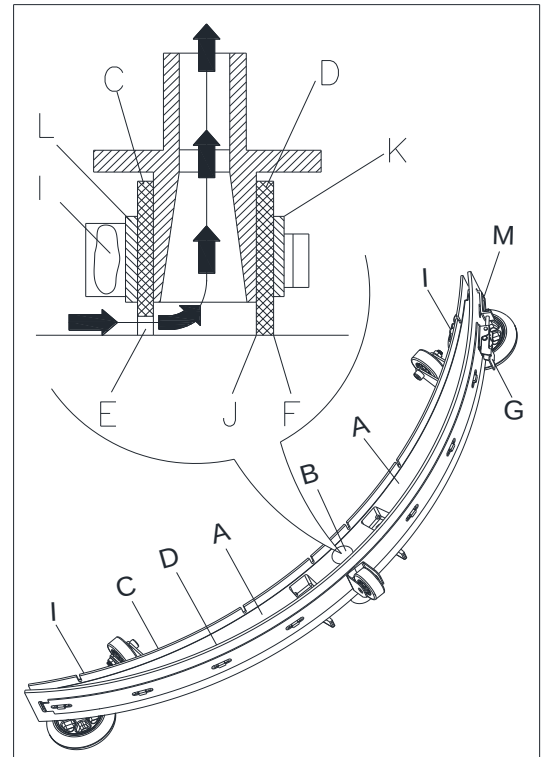

Figure 26
2. Check that the edges (E, Figure 26) of the front blade (C) and the edges (F) of the rear blade (D) lay down on the same level, along their length; if necessary adjust their height according to the following procedure:
- Remove the tie rod (G), disengage the fasteners (M) and adjust the rear blade (D), then engage the fasteners (M) and install the tie rod (G).
- Loosen the knobs (I) and adjust the front blade (C), then tighten the knobs.
3. Check the front blade (C) and rear blade (D) for wear, cuts and tears; if necessary replace them according to the following procedure. Check that the front edge (J) of the rear blade (D) is not worn; if necessary, turn the blade over to replace the worn edge with an integral one. If the other edges are worn too, replace the blade according to the following procedure:
- Remove the tie rod (G), disengage the fasteners (M) and remove the retaining strip (K), then replace the rear blade (D). Assemble the blade in the reverse order of disassembly.
- Unscrew the knobs (I) and remove the retaining strip (L), then replace the front blade (C). Assemble the blade in the reverse order of disassembly. After the blade replacement (or turning over), adjust the height as shown in the previous step.